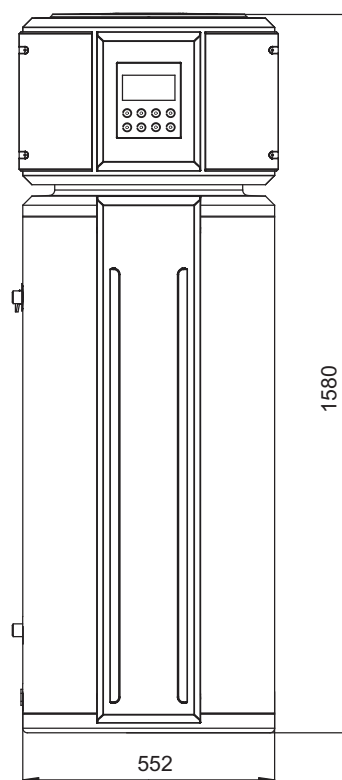

Fig.4-1
- Outline dimensional drawing(see Fig.4-1, Fig.4-2)